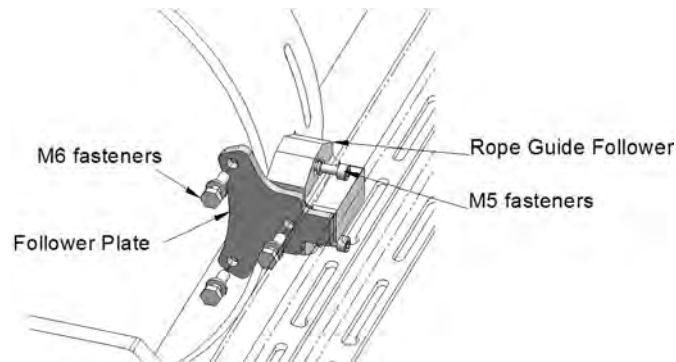

Figure 64 – Fitting Rope Guide Plate – Galvanising/Aggressive Environments
- Fit the rope guide plate to the rope guide and the rope guide follower using 3 off M6 setscrews. Tighten the M6 setscrews to 8Nm. (see Figure 64).